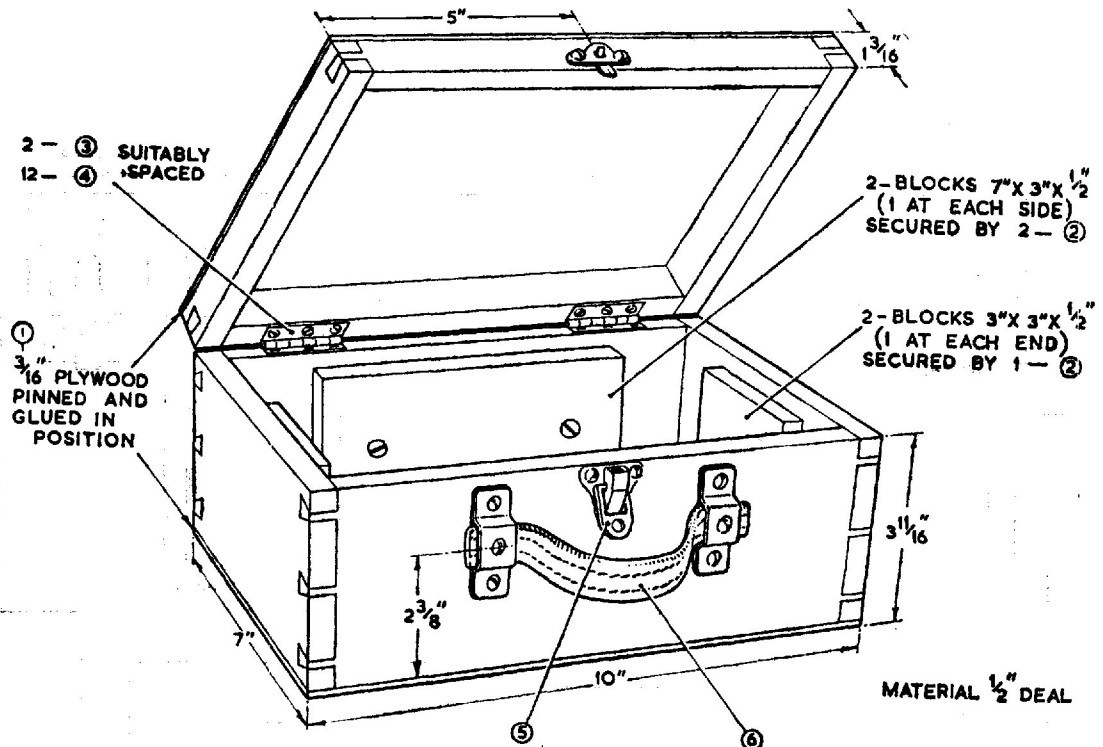

Fig. 2. Test set case
4. The wooden case has a hinged lid fitted with a catch, and has a leather carrying handle. *Fig. 2* gives the information necessary for the manufacture of the case.
8. In the manufacture of the protective test set case, reference is made to fig. 2. for details of dimensions and assembly. The following is the procedure that should be adopted:—
Material required for test set case (fig. 2)